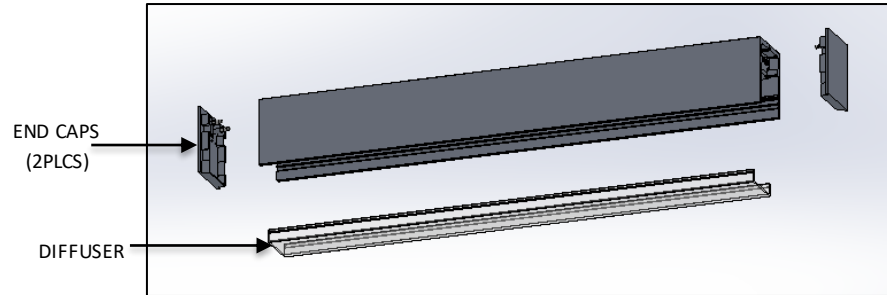

FIG. 9 – FIXTURE ASSEMBLY
7. Reattach DIFFUSER and END CAP as shown FIG. 9.